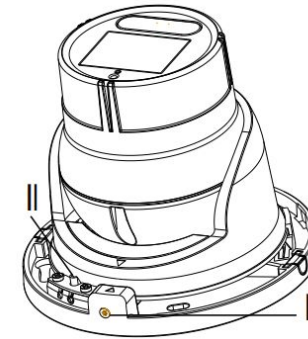

Figure 1-3
Optional To separate camera from mounting base, loosen screw (I) and push spring (II) then remove camera. See Figure 1-3. (Exposes additional mounting holes for single/double gang box. Also, lets you route the cable through the side knockouts).